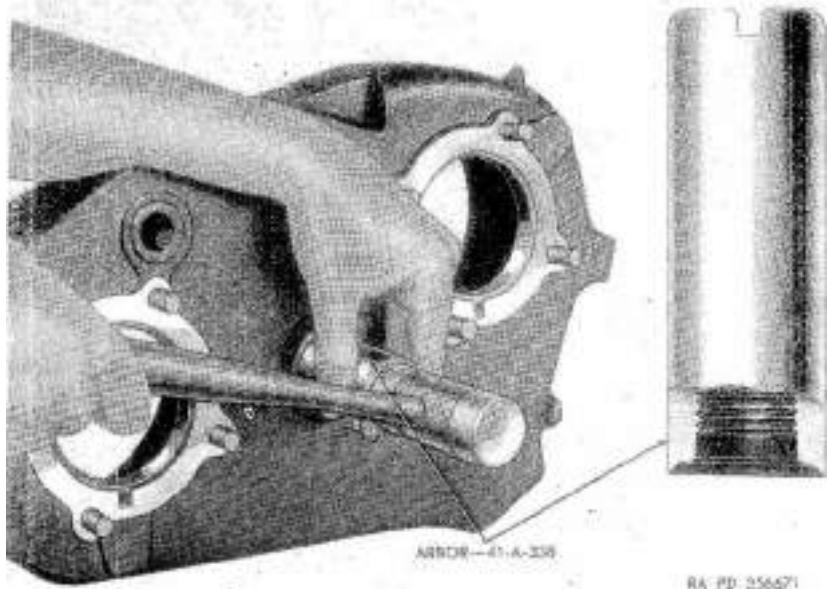

Figure 134. Removing idler gear shaft from transfer case.
- (1) Remove $\frac{1}{8}$ x 1% cotter pin (TT), $\frac{7}{8}$ -16NC slotted nut (VV), and 29/32 ID, 13/4 OD, plain washer (UU) from idler gear shaft (BH).
- (2) Remove 5/16-18NC x % screws (BB), 5/16-inch lock washers (CC), idler gear shaft cover (DD), and idler gear shaft cover gasket (EE).
- (3) Screw arbor-41-A-338 (fig. 134) on threaded end of idler gear shaft. Make certain arbor is firmly seated against shaft shoulder. Drive idler gear shaft from case with a plastic hammer. Remove idler gear and bearings from case.
- (4) Remove idler gear bearing cones (BG and RR), bearing shims (JJ, KK, LL, and MM), and idler gear bearing spacer (NN) from idler gear (PP).
- (5) Drive idler gear bearing cups (HH and QQ) from idler gear with a bronze drift and hammer.